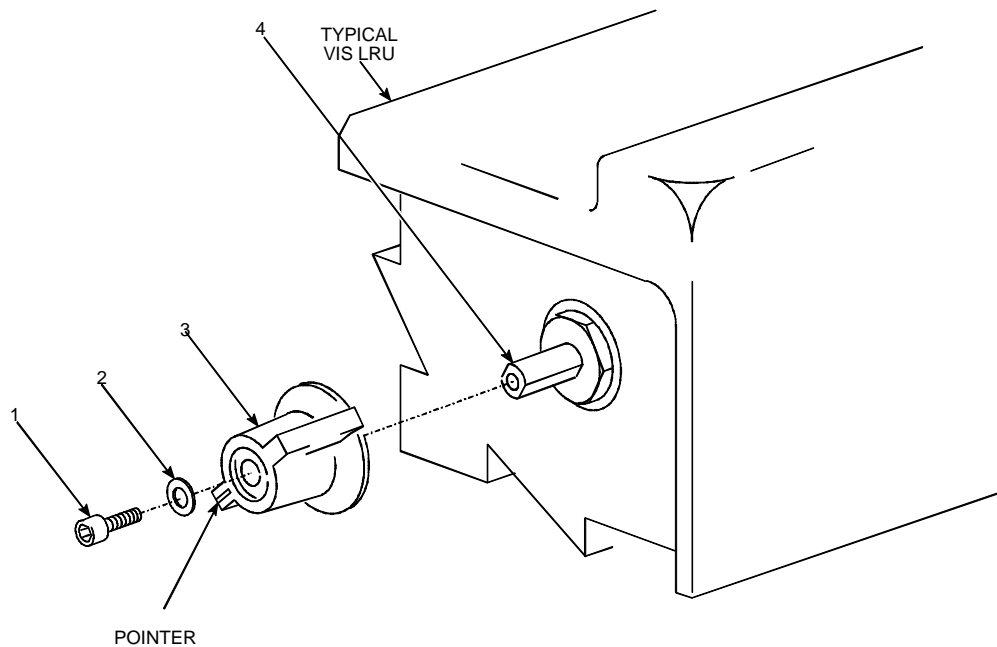

Figure 3-28. VIS LRU(s) Knob
3.11. MCS, FFCS, AND MOS KNOB REMOVAL AND REPLACEMENT (Fig. 3-28)